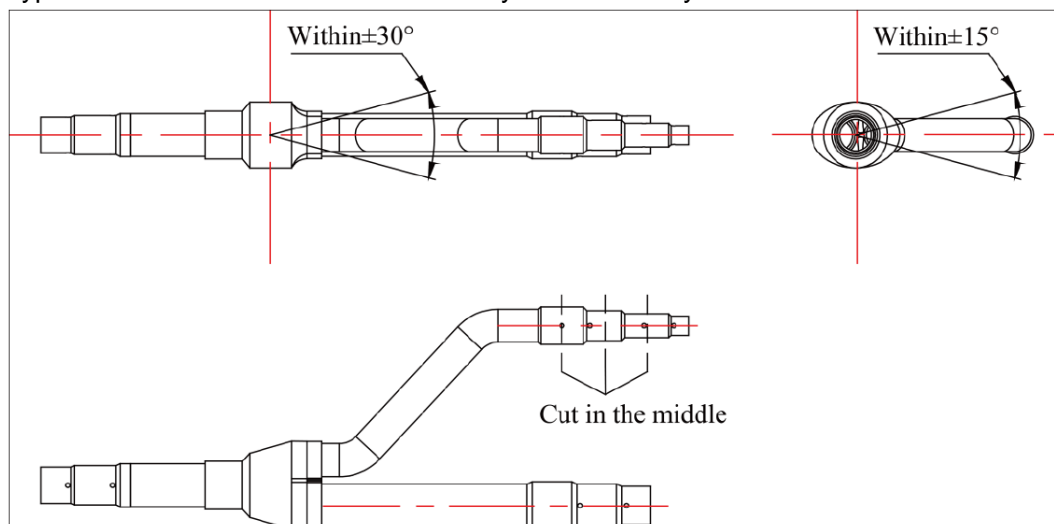

Fig.15
(2) Y-type manifold has several pipe sections with different pipe size, which facilitates to match with various copper pipe. Use pipe cutter to cut in the middle of the pipe section with different pipe size and deburr as well. See Fig.15.
(3) Y-type manifold must be installed vertically or horizontally.